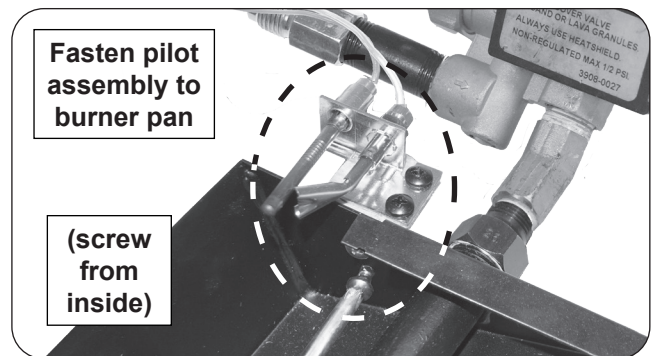
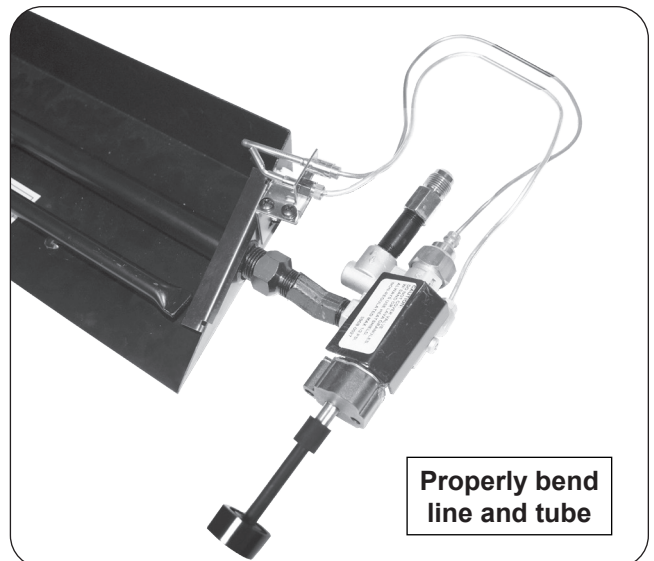

Fig. 7-2 Install pilot assembly
Fig. 7-3 Proper line and tube orientation
1. The pilot assembly comes with two Phillips screws installed on the long side of the pilot bracket. Remove the screws and use them to fasten the pilot assembly to the burner pan using the pre-drilled holes in the pan (see Fig. 7-2 and Fig. 7-3).
2. Ensure the pilot supply line and thermocouple tube are bent in a similar manner as shown in Fig. 7-3 to prevent damage / unsafe operation, and to allow for proper heat shield placement. Maintain this orientation at all times.